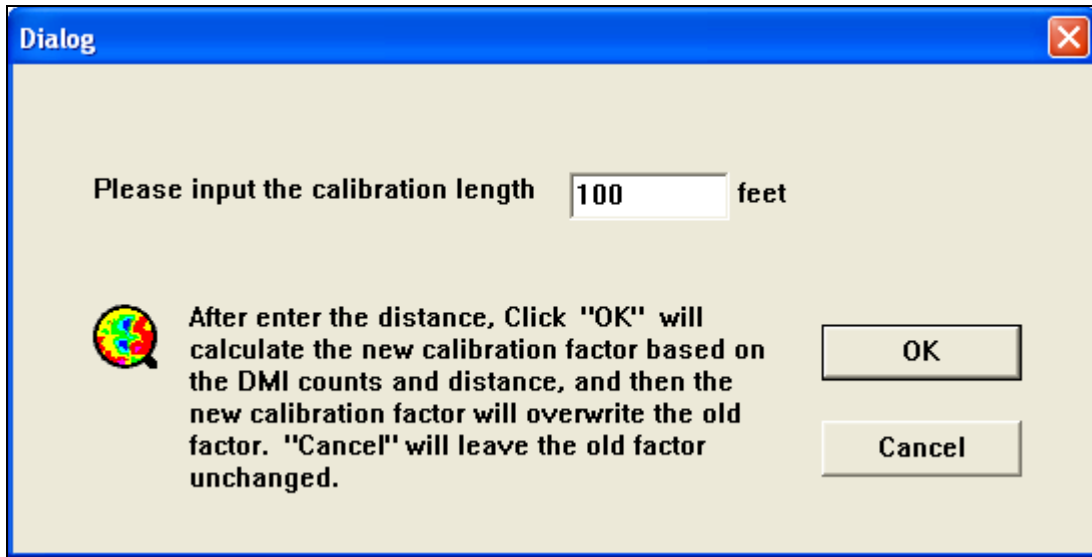

Figure 18. End Calibration Screen for DMI.
- Press the End Calibration button; the screen shown in Figure 18 will appear.